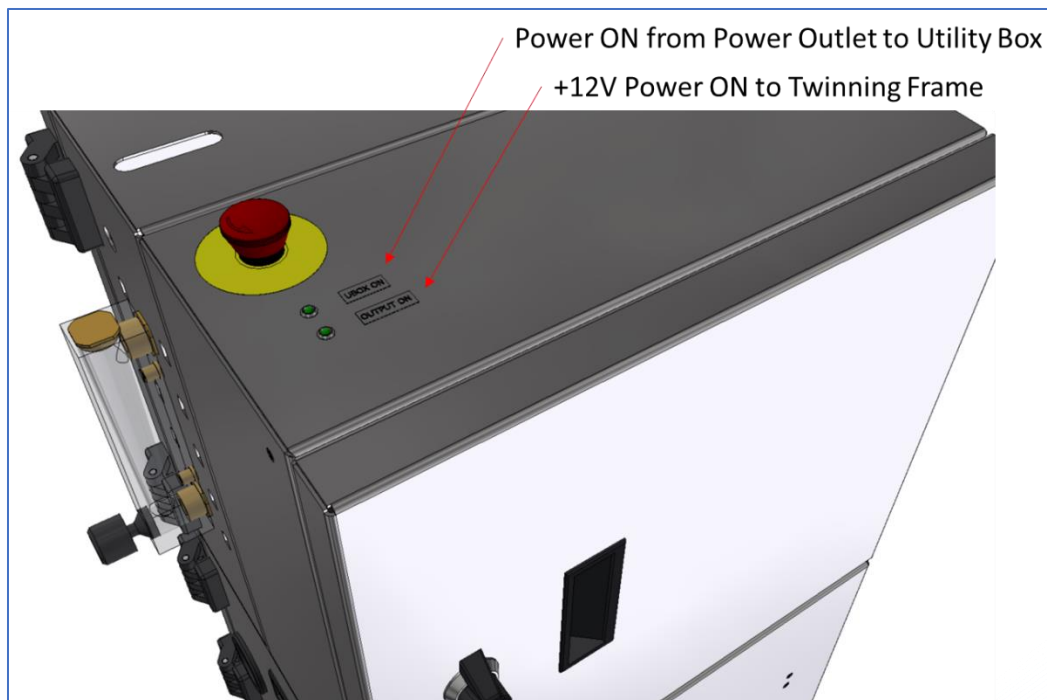

Figure 4: Utility Box Buttons and LED Indicators
- c. Power toggle switch and power on LED are shown in Figure 4: Utility Box Buttons and LED Indicators